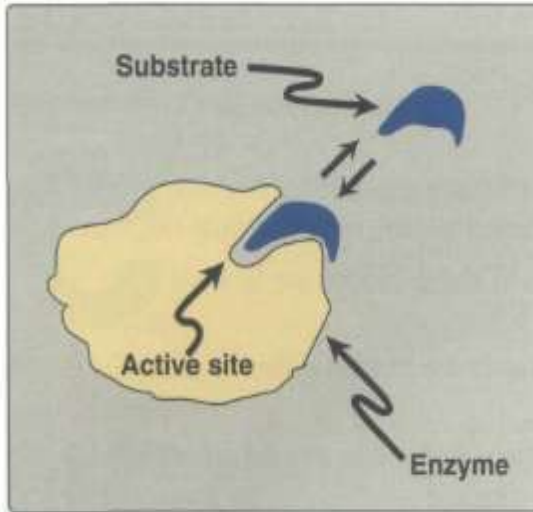

Figure 5.2
Enzyme molecules contain a special pocket or cleft called the active site. The active site contains amino acid side chains that create a three-dimensional surface complementary to the substrate (Figure 5.2). The active site binds the substrate, forming an enzyme-substrate (ES) complex. ES is converted to enzyme-product (EP), which subsequently dissociates to enzyme and product.